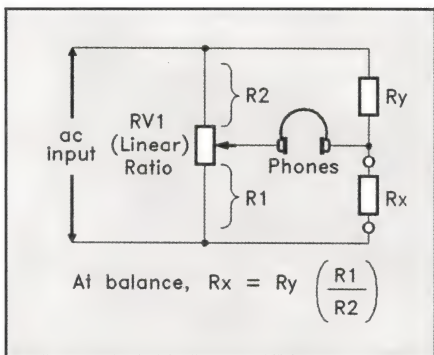
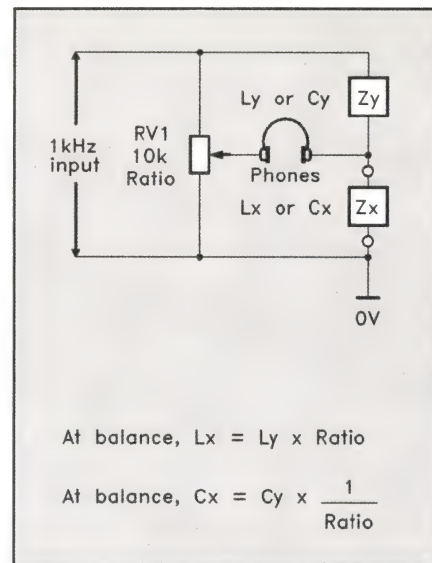

Figure 7. Basic AC-energised Wheatstone bridge with variable ratio-arm balancing and earphone-type detection.
Figure 9. A Wheatstone bridge can be used to balance both capacitive and inductive reactances.
A Wheatstone bridge can be energised from either an AC or DC source, without upsetting its balance truths. Figure 7 shows an AC-energised version in which the balance condition is obtained via an infinitely-variable pair of ratio arms made up by RV1. In this case, balance-sensitivity is so high that balance detection can be made via a pair of earphones.
An AC-energised Wheatstone bridge can measure both reactance and resistance, and can thus also measure capacitance (C) and inductance (L). Figure 9 shows how the circuit in Figure 7 can be used to measure C and L values. This can be achieved by replacing R_x and R_y with reactances of equivalent types, provided that C_x or L_x are reasonably pure and have impedances (at 1kHz) which are greater than approximately 1Ω , and less than $10M\Omega$. The problems with trying to measure inductance using this circuit are that accurate inductors (for use in the Z_y position) are hard to get, and that inductive impedances are only 6-28 Ω per mH at 1kHz. The only problem in
In Part 1 of the series, two examples of operating systems were discussed: the BBC Micro operating system, based on the 6502 MPU (see Figures 7 and 8, Part 1); and the Einstein micro which uses a standard CP/M operating system, running on a Z80 MPU (Figures 9 and 10, Part 1).